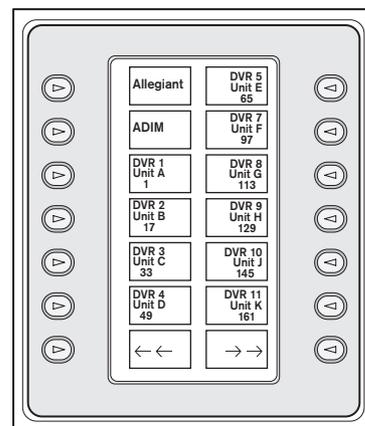

FIGURE 3-2 Main Product Selection Menu
1. Press the **PROD** button to put the keyboard in the *Product Selection Mode*. The softkey display shows the *Product Selection* menu (refer to FIGURE 3-2).
1. Press **PROD** to view the *Product Selection* menu (see FIGURE 3-2).